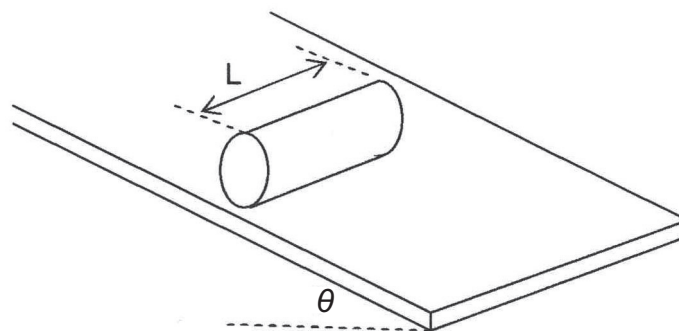

Fig. 3.1
- 3 In this question you will plan an experiment to investigate the behaviour of solid brass cylinders, of various diameters, as they roll down a slope as shown in **Fig. 3.1**.
- (a) (i) Describe a suitable method, based on the arrangement of **Fig. 3.1**, that will allow you to investigate the relationship, if any, that exists between the mass of the cylinders and their average velocity, v , as they travel down the slope.